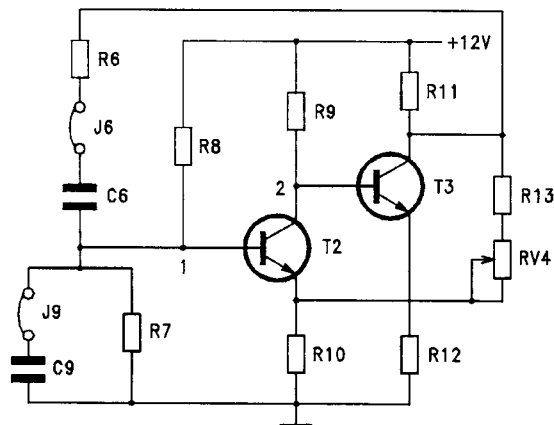

fig. B33.6
- Remove all jumpers, insert J6, J9 to produce the circuit of fig.B33.6.